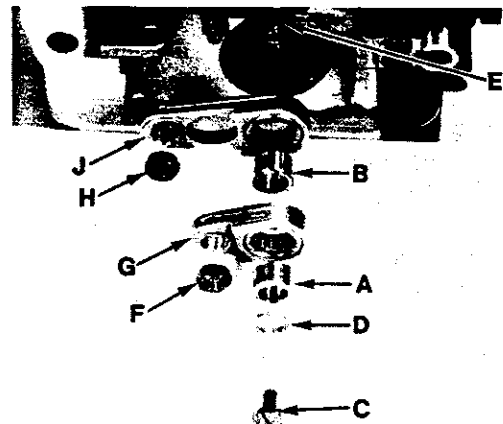

Fig. 22
Length of stitch is determined by the combination of feed eccentrics used. Outer (left) eccentric (A, Fig. 22) actuates main (rear) feed dog while inner (right) eccentric (B) actuates differential (front) feed dog.